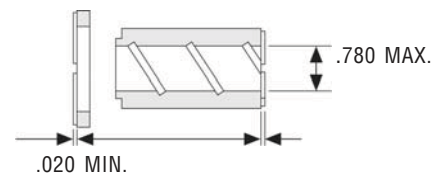

Figure 1
1. Check impeller drive bushing (item 16A) and impeller thrust washer (item 17A). Replace if cracked, chipped, or scored. If the minimum groove height in the slotted areas of the drive bushing or the thrust washer is less than the minimum height recommended (.020), then replace them.
2. If the drive bushing's inside diameter is more than .780, then replace it. See figure 1.